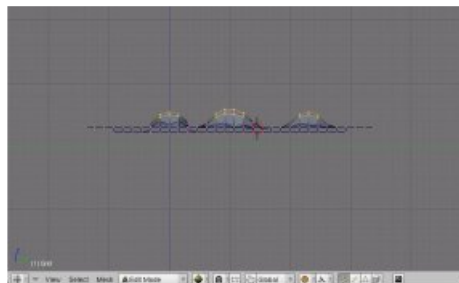

Fig 13: Scene with more variations.
**2.**Then Tab back to Edit Mode, with Proportional editing on (O) in side view, grab the faces (G) and move them up. They look a little too blocky to be real hills, so hit the Smooth button a few times, and then you may want to move them up a little bit more. See fig 13.